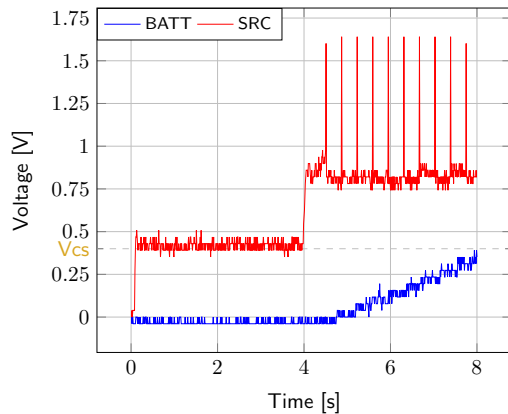

Figure 6: AEM30940 behaviour during cold start
- **SRC**: Equals to the cold-start voltage during the cold-start phase. Regulated at the selected MPPT percentage of  $V_{oc}$  when cold start is over (see Figure 6). Be careful that the cold-start phase time will shorten with the input power. Limit it to ease the observation.
- **BATT**: Starts to charge when the cold-start phase is over (see Figure 6).